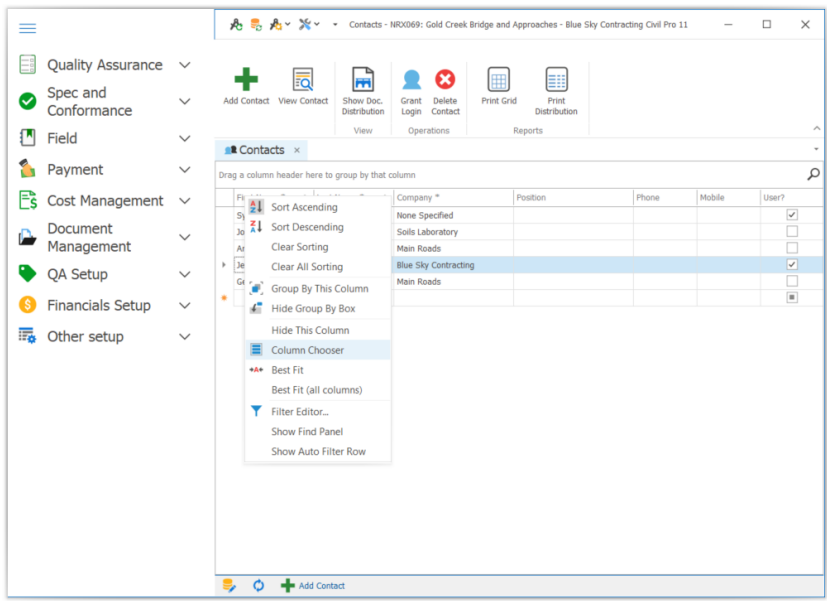

Figure 41 Adjusting register information using the column chooser
- Using the column chooser. Right click on any of the column headings and select *Column Chooser* from the context menu as in Figure 41. This is available in the contacts register. Then select what information you wish to see and drag and drop it into the register header.